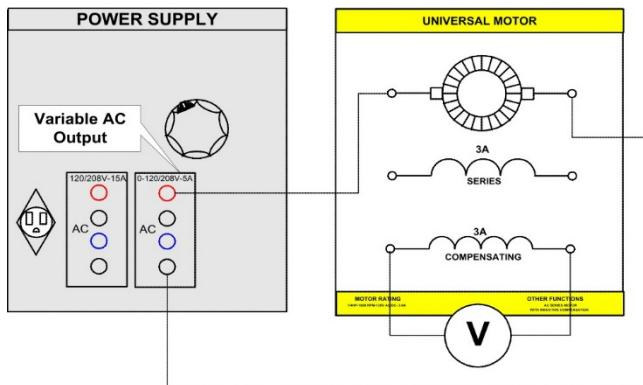

FIGURE 8.17
Step 5: You will now determine the neutral brush position for your motor by using alternating current. Using your EMS Power Supply, Data Acquisition Interface (DAI) modules in the EMS workstation and Motor Modules, connect the circuit shown in Figure 8.17. Terminals 4 and N on the power supply will furnish variable 0-120Vac as the voltage output control is advanced.